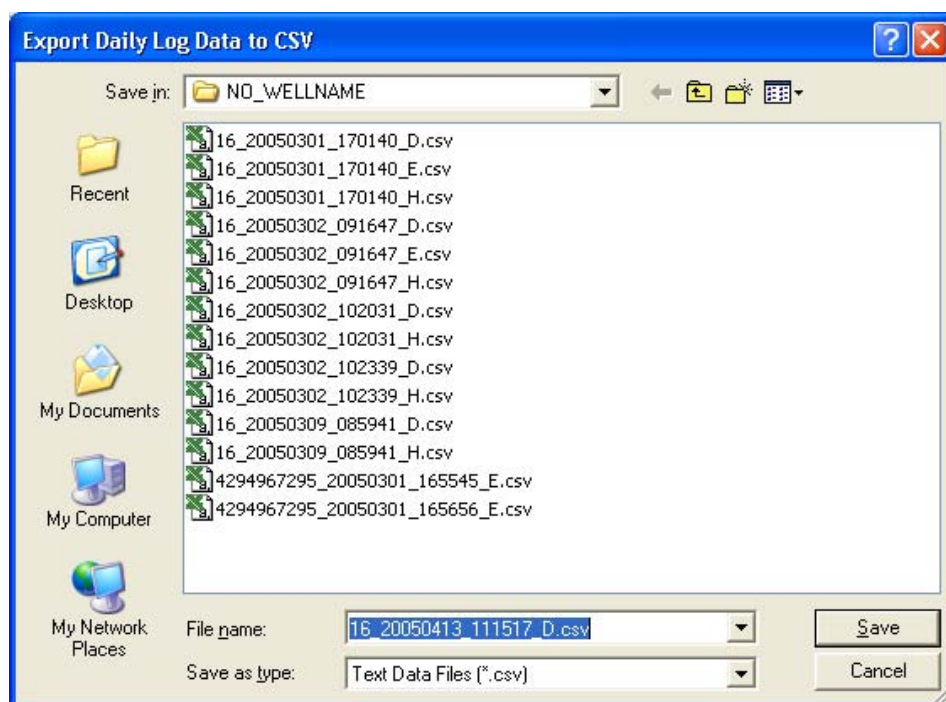

Figure 5.13—Default directory for exported log files
2. When the “Export Daily (or Hourly) Log Data...” window appears, click “Save.” By default, exported logs are saved in C:\NuFlo log data\MC-III\<WELL NAME>, however the user can specify a new location, if desired (Figure 5.13, page 84). The “wellname” folder will bear the well name that appears on the Wellsite Information screen. If no well name is entered on this screen, the folder will be named “NO\_WELLNAME.”